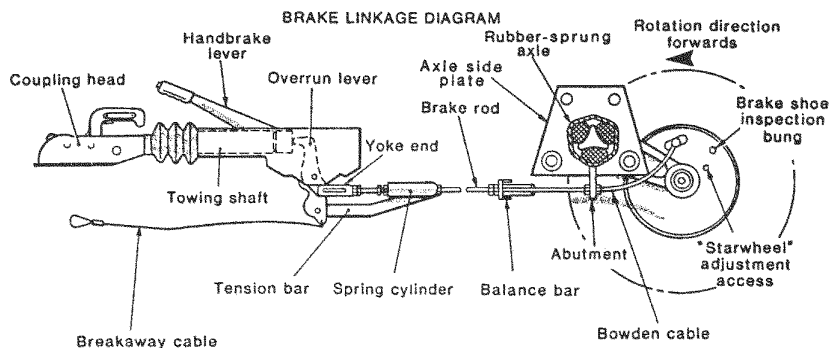
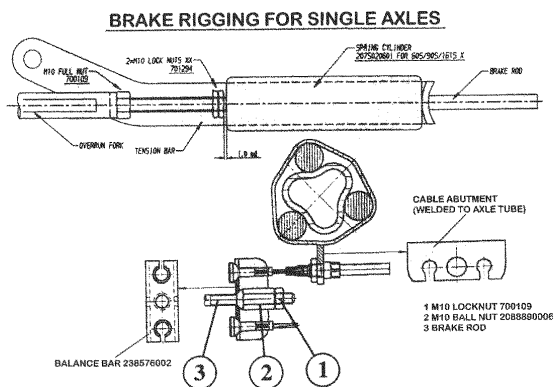

Fig. 10
Fig. 12
1. Ensure the towing shaft with coupling head is pulled FULLY FORWARD. (Fig. 10).
2. Release the handbrake to the FULLY OFF position. If the handbrake will not go down the whole way because of the fairing or any other obstruction; then the fairing must be cut away and/or the obstruction removed to achieve this desired position. It will not be possible to set up the braking system properly when the handbrake is not in the FULLY OFF position. (Fig. 10).
4. Remove the inner plastic bung from the backplate to expose the "starwheel" adjuster access. (Figs. 10 & 11).
When the inner cable is pulled out it should extend between 5 and 8 mm. (Fig.12). (On tandem axles a double abutment (bracket) is fitted to the front axle ONLY).
10. Ensure the balance bar (compensator) is being pulled evenly (Figs.10 & 12). Excessive movement to this bar (double on tandem axles) would indicate possible incorrect adjustment (if appropriate, repeat step No. 7 - Fig. 12).
12. Remove the slack in the brake rod by adjusting the long ball nut, rear of the balance bar, ensuring the overrun lever makes contact with the end of the towing shaft. Note! Over adjustment to the long ball nut (Fig. 12/Item 2) could induce movement of the inner brake cable, reducing the effective clearance of the brake shoes. If the overrun lever will not make contact, it is
possible the two lock nuts, forward of the spring cylinder, are incorrectly adjusted. Loosen the nuts and adjust brake rod as above (Figs. 10 & 12).
13. Adjust the two locking nuts, forward of the spring cylinder (Fig. 10), (on some chassis a single Nyloc nut is used) to give 1 mm of clearance on the spring cylinder. This cylinder (the energy store for the handbrake operation) must be able to rotate ONLY, not slide on the brake rod. (Fig. 12).